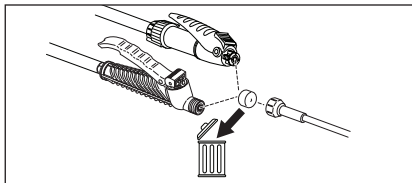

Figure 3. Discard Cap and Install Extension
2. Install the extension onto the shut-off assembly and tighten the nut securely. See Figure 3.